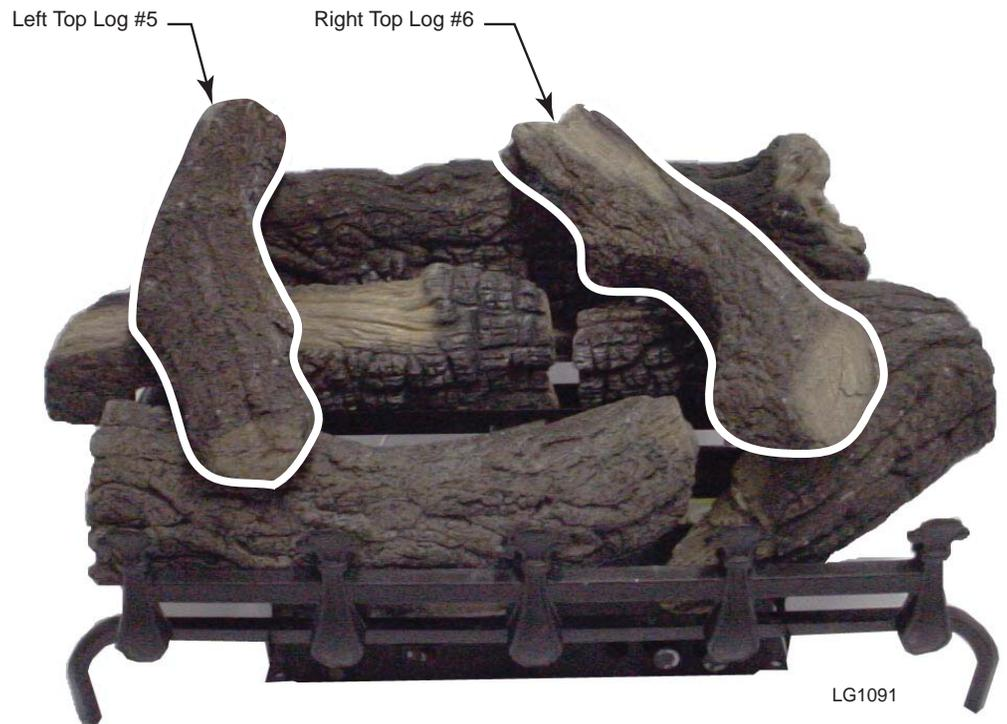

Figure 23
5. Rest Left Top Log (#5) on front and rear log cutouts. *Figure 23*
6. Rest Right Top Log (#6) on front and rear log cutouts. *Figure 23*